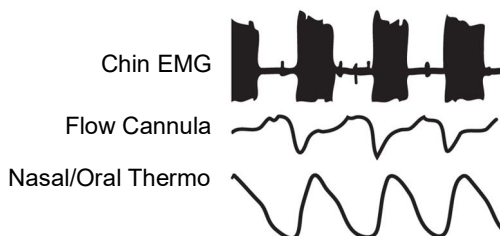

Figure 5-4. Inversion
2. The invert signal setting may be used if stimulation consistently occurs during expiration (Figure 5-4).